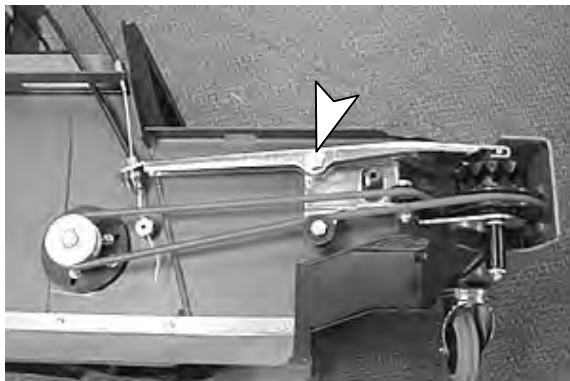

FIG. 7.
1. Remove belt from main pulley. Remove fixing pin and let the hooks of side arm come out of the idle toothed ring (Figure 7).